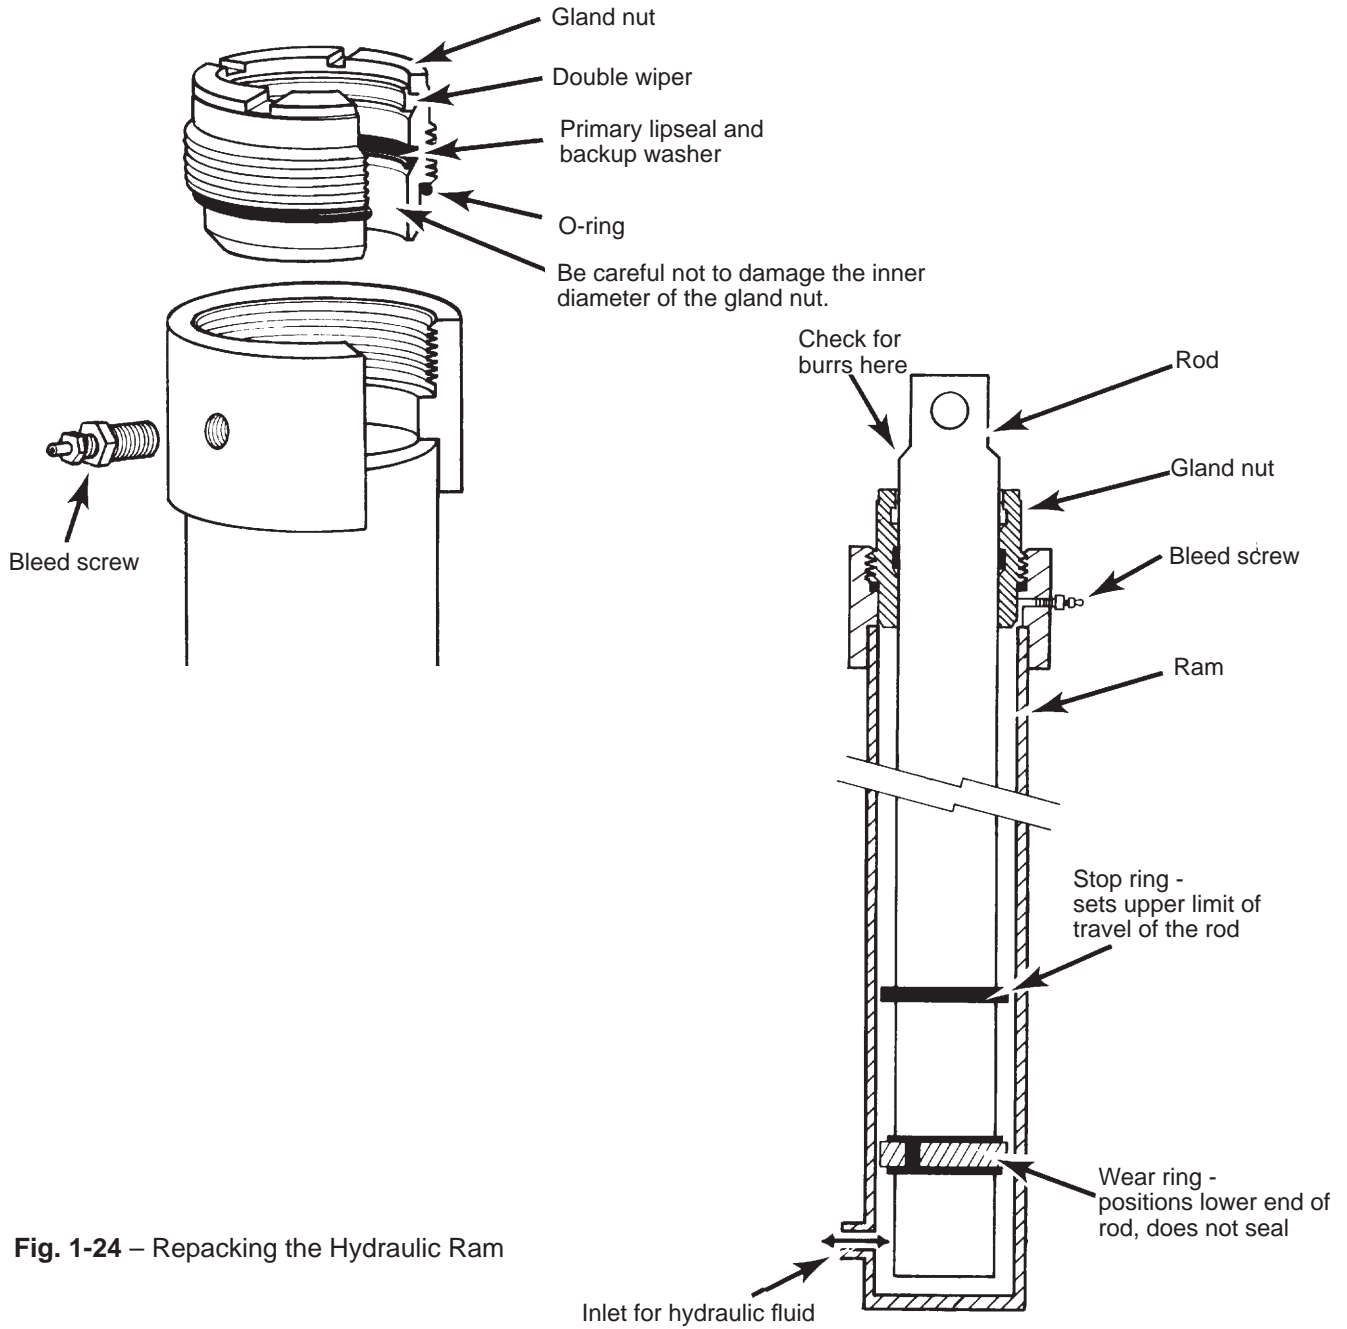

Fig. 1-24 – Repacking the Hydraulic Ram
1. If you notice any hydraulic fluid leaking around the rod, the gland packing should be replaced. Figure 1-24 shows the packing used on the VRC unit. The gland nut is made of bronze. The primary lipseal is mounted in the lower part of the gland nut, and a double wiper is mounted in the upper part. The upper end of the ram is designed so the gland nut can be completely removed. This means you can service the gland nut at the workbench. This arrangement also makes it possible to remove the rod for inspection or replacement.
Be sure the back of the washer is seated against the bottom of the groove. Install the lip seal on top of the backup washer. The lip on the seal should be nearest the lower end of the gland nut, as shown in Fig. 1-24.
14. Be sure the O-ring is mounted on the outside of the gland nut, just below the threads, as shown in Fig. 1-24. Thread the gland nut into the top of the ram casing. Tighten it by turning the nut clockwise.
3. Find the bleed screw on the upper end of the rod casing. See Fig. 1-24.
- If the oil is leaking around the top of the rod, the seals in the gland nut may be worn. See the section on “Replacing the Ram Gland Packing.” Do not try to reduce the leakage by tightening the gland nut. This will only over-compress the O-ring under the gland nut. See Fig. 1-24.